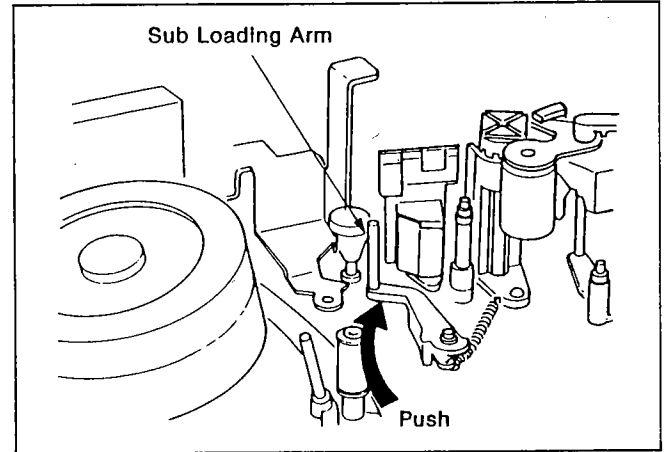

Figure M41
2. Push the Sub Loading Arm to the STOP position and keep it as shown in Figure M41.